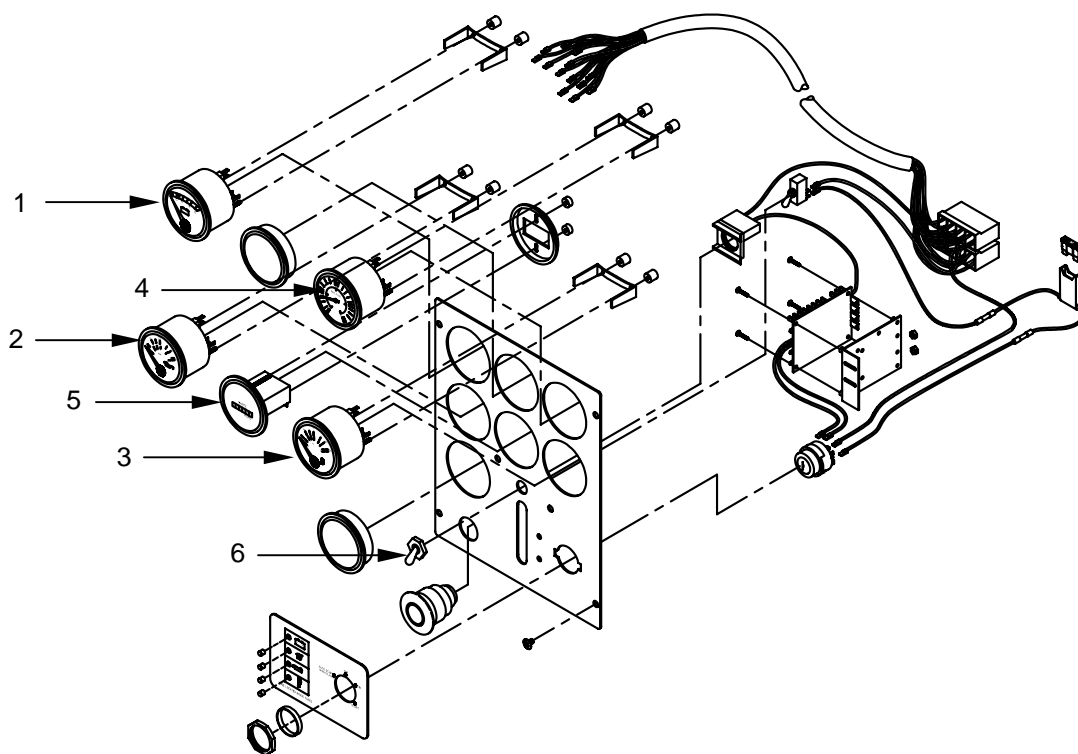

Figure 11. Front Panel Assembly
Replace a voltmeter (**figure 11, item 1**), oil pressure gage (**figure 11, item 2**), water temperature gage (**figure 11, item 3**), tachometer (**figure 11, item 4**), hour meter (**figure 11, item 5**), or toggle switch (**figure 11, item 6**) as follows: